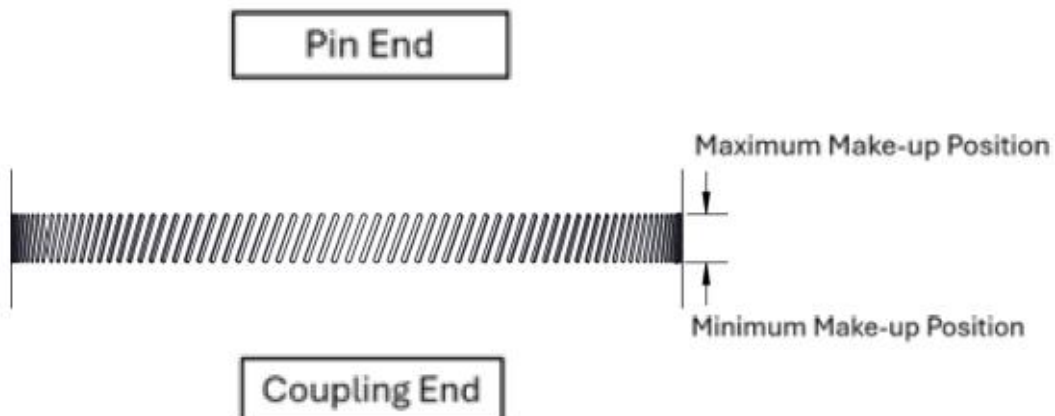

Figure 13: Knurl Band Tolerance Criteria
- Connections with knurling, the box face shall fall/lie anywhere inside the knurl band tolerance criteria (Figures 13 & 14).